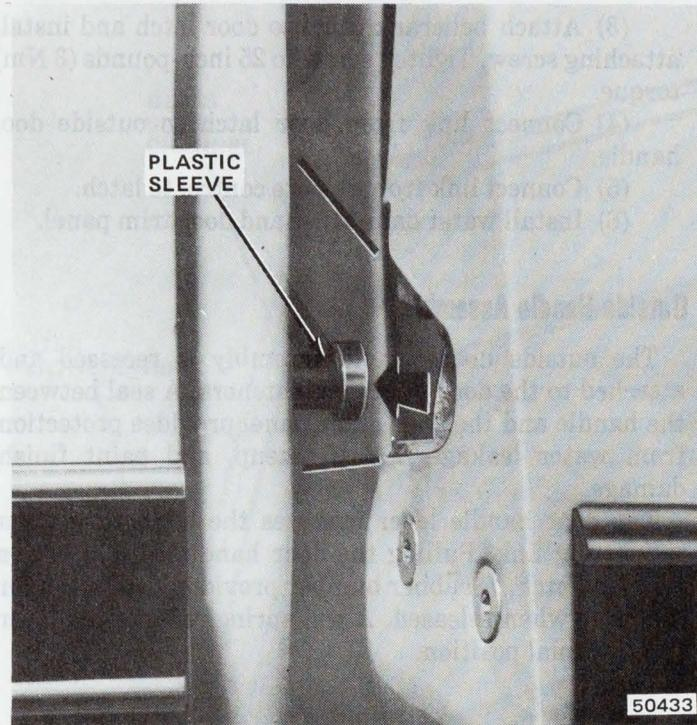

Fig. 3J-68 Lock Striker Alignment
- (1) Determine proper striker alignment (fig. 3J-68).
- (2) Loosen and move striker to desired position.
- (3) Tighten striker to 52 foot-pounds (70.5 Nm) torque.
- (4) Apply lubricant to striker pin.